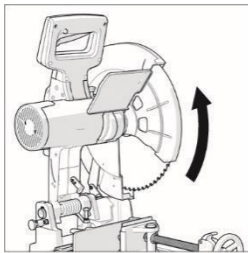

Fig.5
- Retract the lower blade guard up into the upper blade guard by rotating it by hand. (Fig. 5)